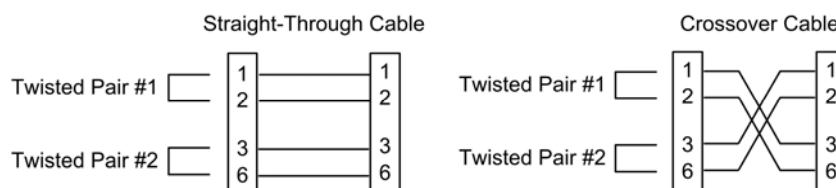

Figure 69: MDI Straight Through and MDI-X Crossover Cables
- Straight-through or crossover twisted-pair cable may be used. See Figure 69.